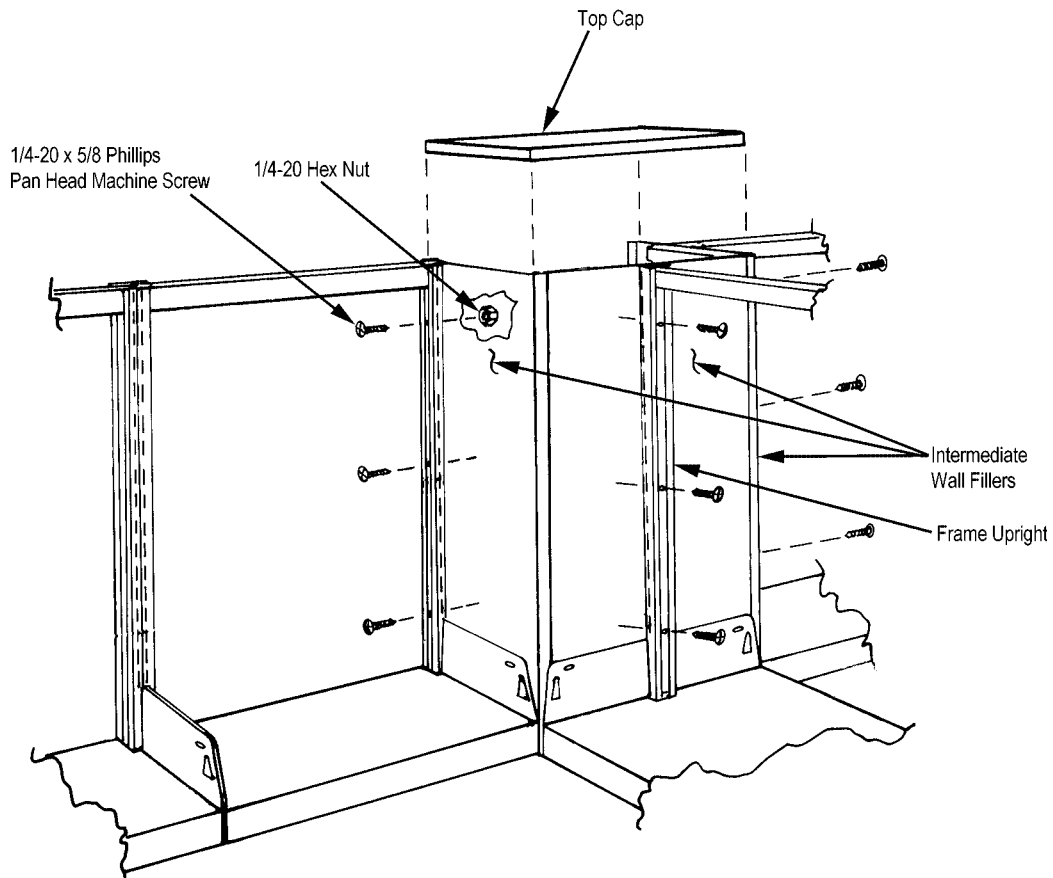

FIGURE 44
1. Attach the three pieces of the filler to the various welded frame uprights through the holes provided using 1/4-20 x 5/8 Phillips pan head machine screws and 1/4-20 hex nuts. See Figure 44.